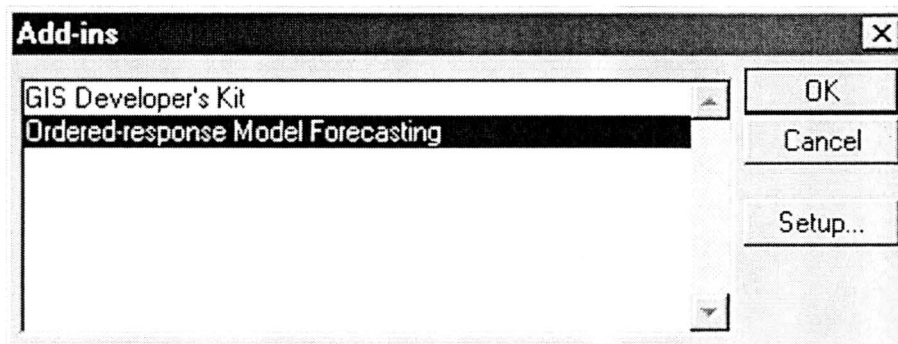

Figure II-1. Add-in window
2. Go to menu “tools” and choose “add-ins”. In the “add-ins” window (as shown in Figure II-1), choose “Ordered-response Model Forecasting”, and click “OK”.